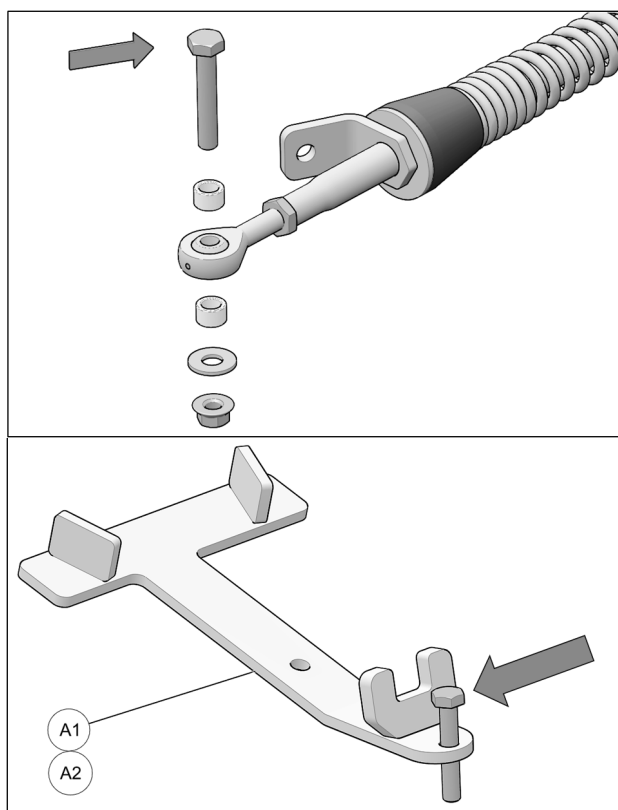

Fig. 11
4. Remove bolt, washer and bushings from front stabilizing rod end and insert bolt in front anchor bracket as shown in Fig. 11